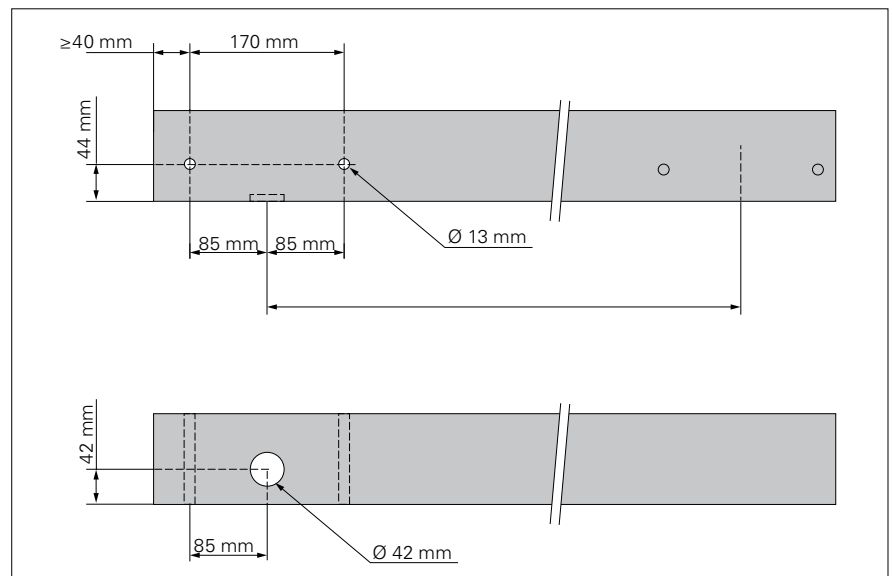

Fig. C1.04c
2. Pre-drill timbers for the screw heads (109.1) using a Forstner drill \varnothing 42. Drilling pattern: see Fig. C1.04c.